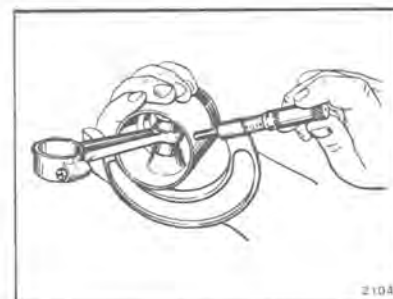

Figure 9-14
- b. Check pistons for roundness, taper, excessive skirt wear, and scoring. Piston skirts must be perfectly round and unscratched to prevent entry of exhaust gases into crankcase chamber. Check piston size, taper, and roundness, using a micrometer (see Figure 9-14). Check clearance between piston and cylinder before reinstalling piston (see Figure 9-15). Check tolerances on spec. sheet page 2-2.